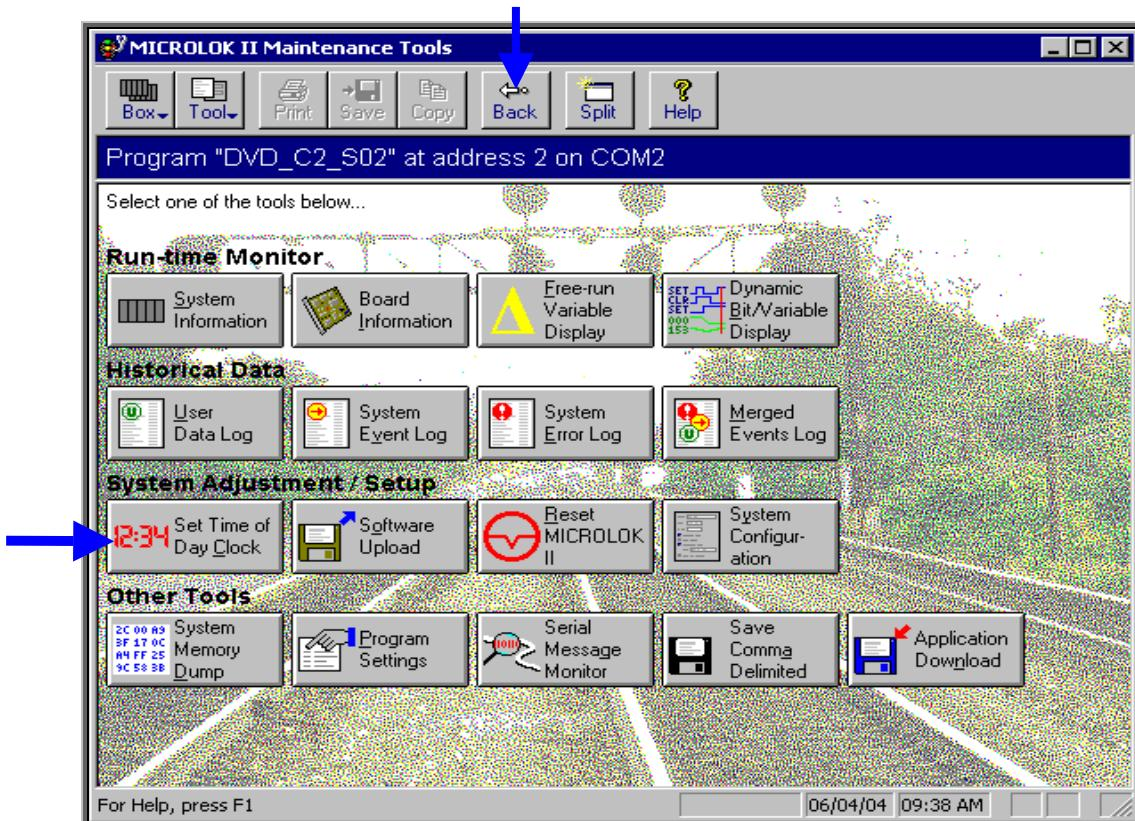

Figure-5.7.1
- ◆ Click on the “Set Time of Day Clock” button on the Maintenance Tools main menu (Figure-5.7.1).